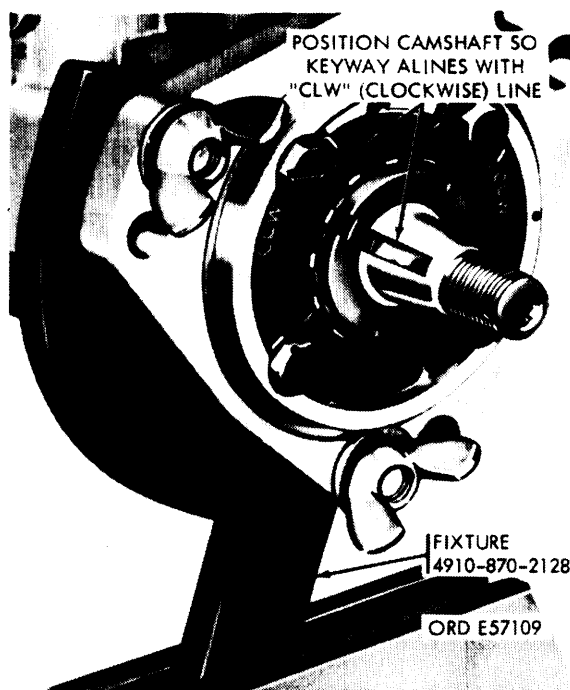

Figure 3-113. Positioning camshaft prior to installing quill shaft assembly.
a. Position camshaft as shown in figure 3-113, before installing quill shaft assembly.